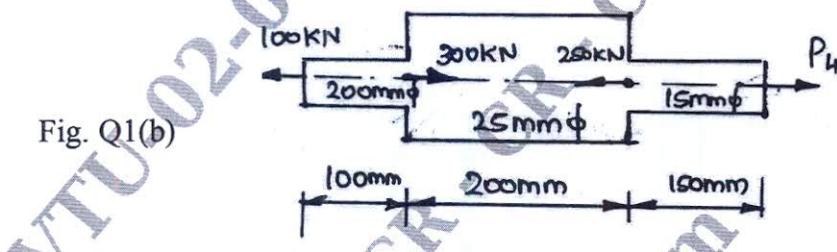

Fig. Q1(b)
b. Determine the stresses in the various segment of circular bar shown in the Fig. Q1(b). Compute the total elongation. Take $E = 195 \text{ GPa}$. (08 Marks)